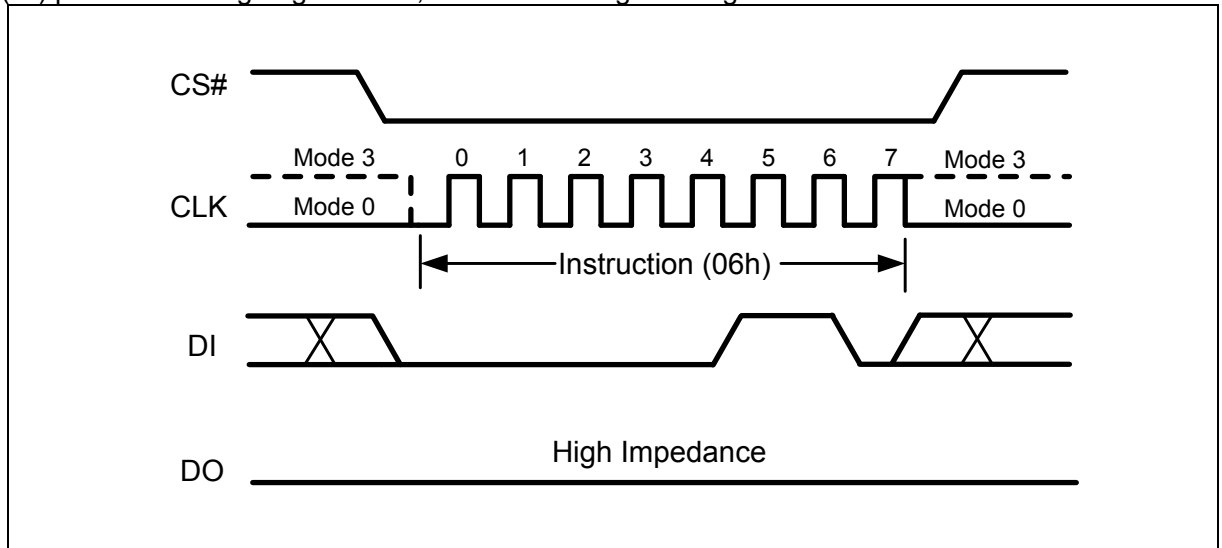

Figure 5 Write Enable Instruction
Instructions vary in length from a single byte to several bytes and may be followed by address bytes, data bytes, dummy bytes (don't care), and in some cases, a combination. Instructions are completed with the rising edge of edge CS#. Clock relative timing diagrams for each instruction are included in Figure 5 through Figure 25. All read instructions can be completed after any clocked bit. However, all instructions that Write, Program or Erase must complete on a byte boundary (CS# driven high after a full 8-bits have been clocked) otherwise the instruction will be ignored. This feature further protects the device from inadvertent writes. Additionally, while the memory is being programmed or erased, or when the Status Register is being written, all instructions except for Read Status Register will be ignored until the program or erase cycle has completed.
The Write Enable (WREN) instruction (Figure 5) sets the Write Enable Latch (WEL) bit in the Status Register to a 1. The WEL bit must be set prior to every Page Program, Sector Erase, Block Erase, Chip Erase, Write Status Register instruction. The Write Enable (WREN) instruction is entered by driving CS# low, shifting the instruction code “06h” into the Data Input (DI) pin on the rising edge of CLK, and then driving CS# high.